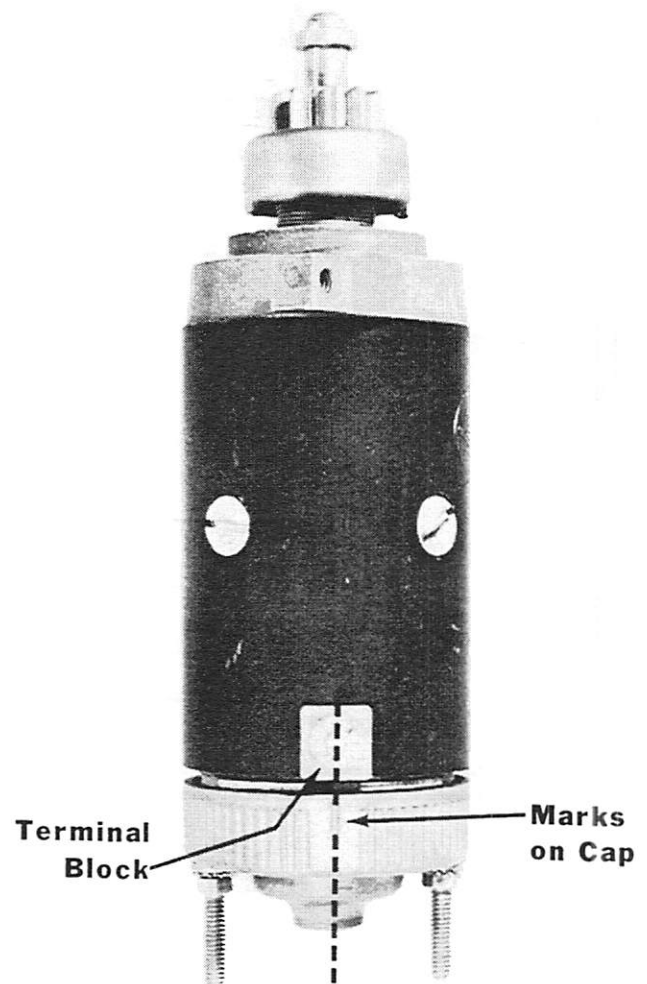

Figure 2. Aligning End Cap with Brush Holder
5. Align lower end cap with brush holder and install. Two marks on cap line up with terminal block. (Figure 2) Install 2 thru bolts and tighten.